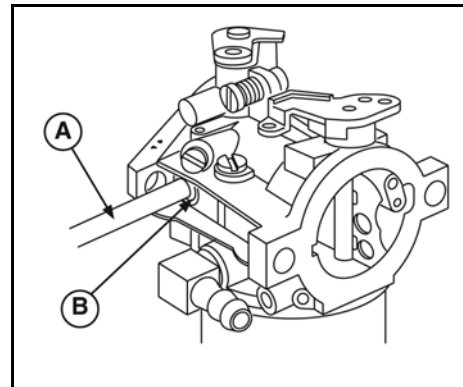

Figure 47
1. Install new welch plug (A, Figure 47) with pin punch (B) of slightly smaller diameter than the plug. Press against the plug until it is flat in the carburetor opening. Do not cave in plug. Seal the edge of the plug with non-hardening sealant.